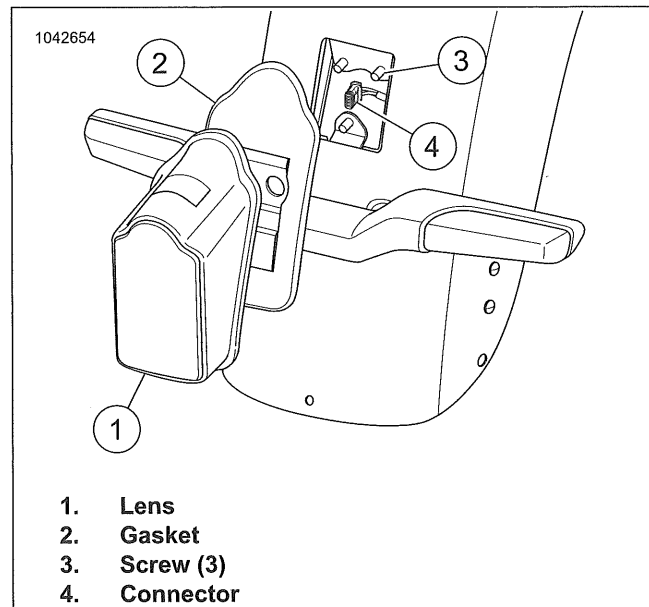

Figure 7-90. Tombstone Tail Lamp
1. See Figure 7-90. Remove screws (3).
2. Disconnect connector (4).
3. Remove lens (1).
4. Remove gasket (2).
1. See Figure 7-90. Install gasket (2).
2. Install lens (1).
3. Connect connector (4).
4. Install screws (3). Tighten.